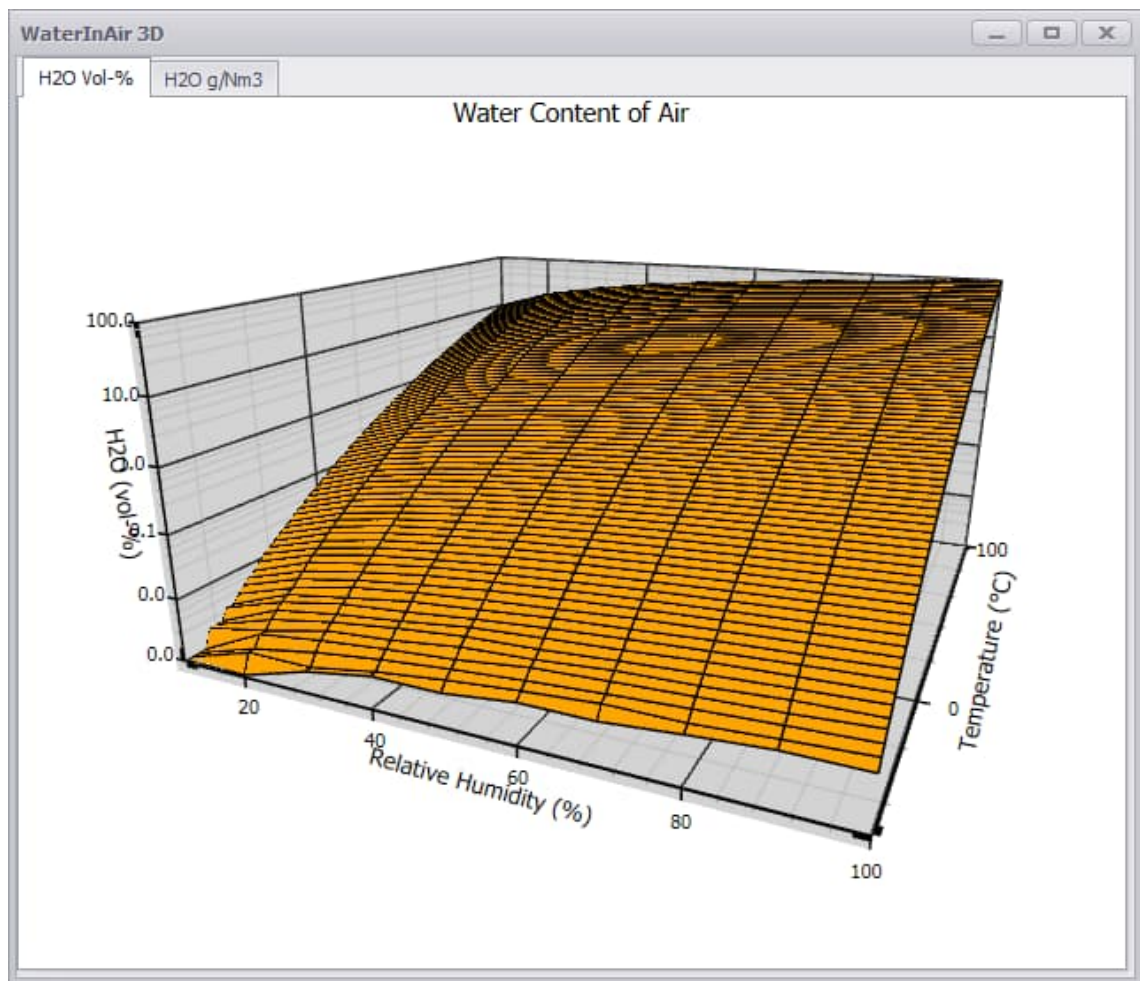

Fig. 3. Water in Air 3D graph.
3. **Air sheet:** Air composition and humidity tables, see **Fig. 3**.